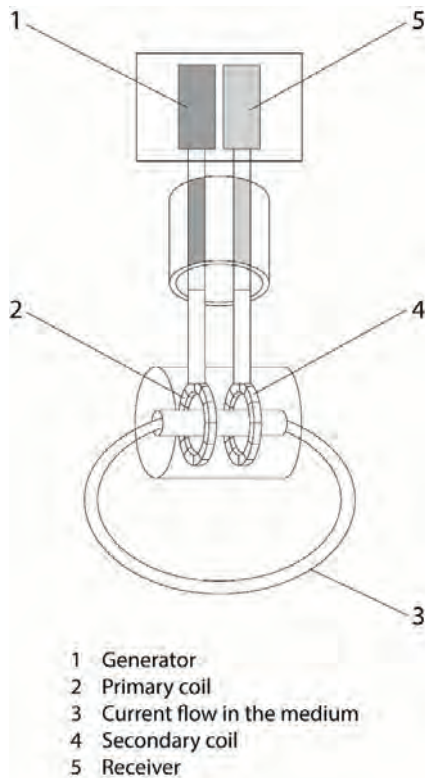

Figure 3: Inductive conductivity measurement.
The measurement principle of such a conductivity sensor (Figure 3) is based on an inductive signal, whereby a generator (1) generates an alternating magnetic field in the primary coil (2) which induces a current in the medium (3). The strength of the induced current depends on the conductivity and thus the ion concentration of the medium. The current flow in the medium generates another magnetic field in the secondary coil (4). The resulting current induced in the coil is measured by the receiver (5) and processed to determine the conductivity.